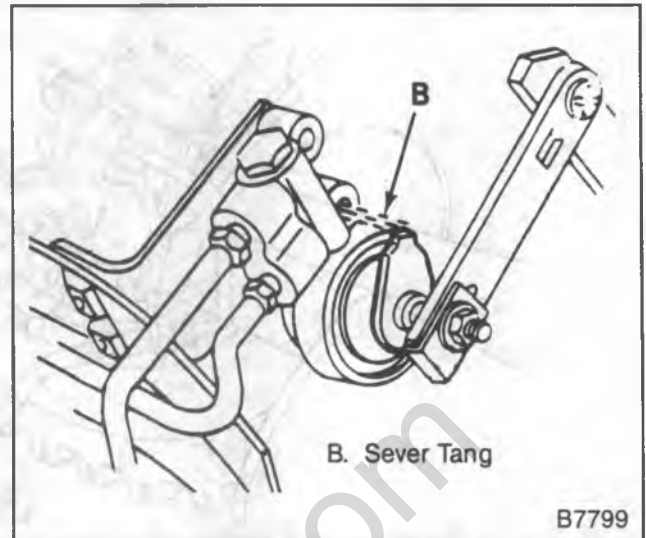

Figure 14—Severing the Adjustment Tang
8. Sever the tang on the adjustment gage (figure 14).